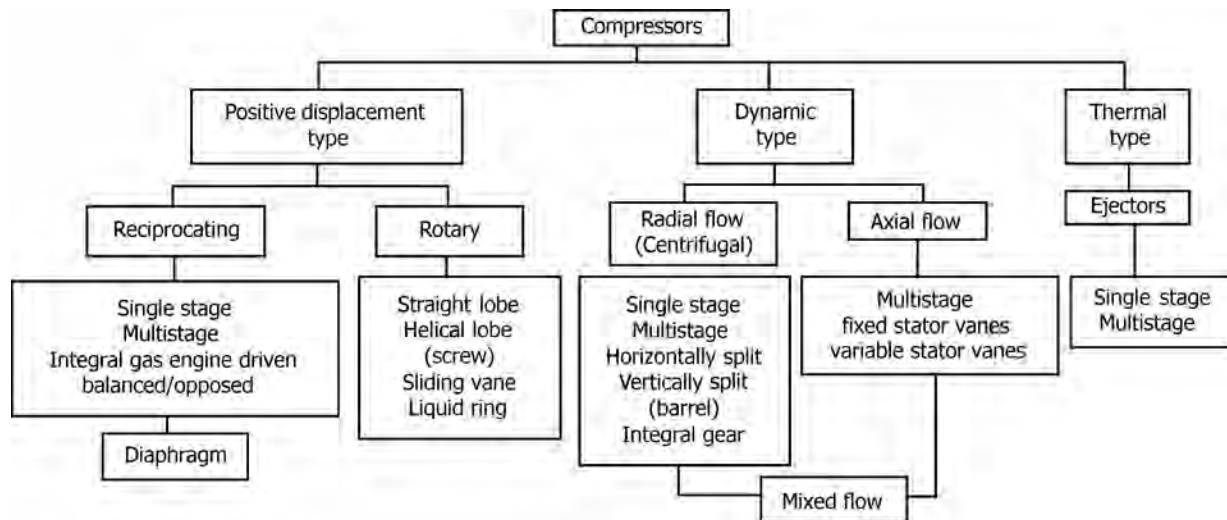

FIGURE 5.37 Types of compressors. (Courtesy: GPSA Engineering Data Book, 12th ed.)
- Figure 5.37 gives classification of different types of compressors.